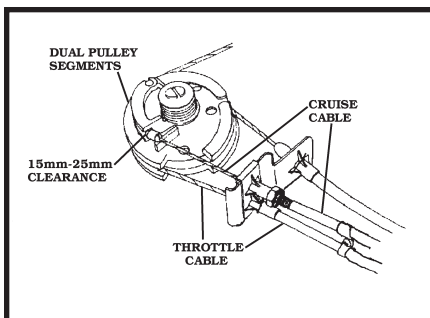

Figure 12
5. Attach the **T-BAR ADAPTOR** to the **BEAD CHAIN CONNECTOR**. Make sure to slide the **CONNECTOR COVER** over the **BEAD CHAIN CONNECTOR**. **Figure 12**